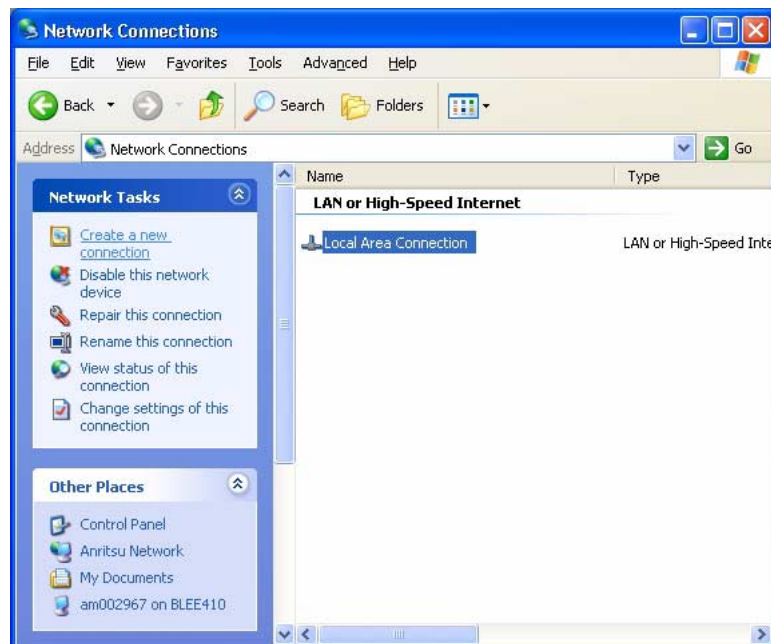

Figure 1-10. Network Connections
- Step 5. If a connection needs to be manually set up or modified, you can right click on the connection name in the Network Connections window (Figure 1-10) and select Properties from the pop-up dialog box.